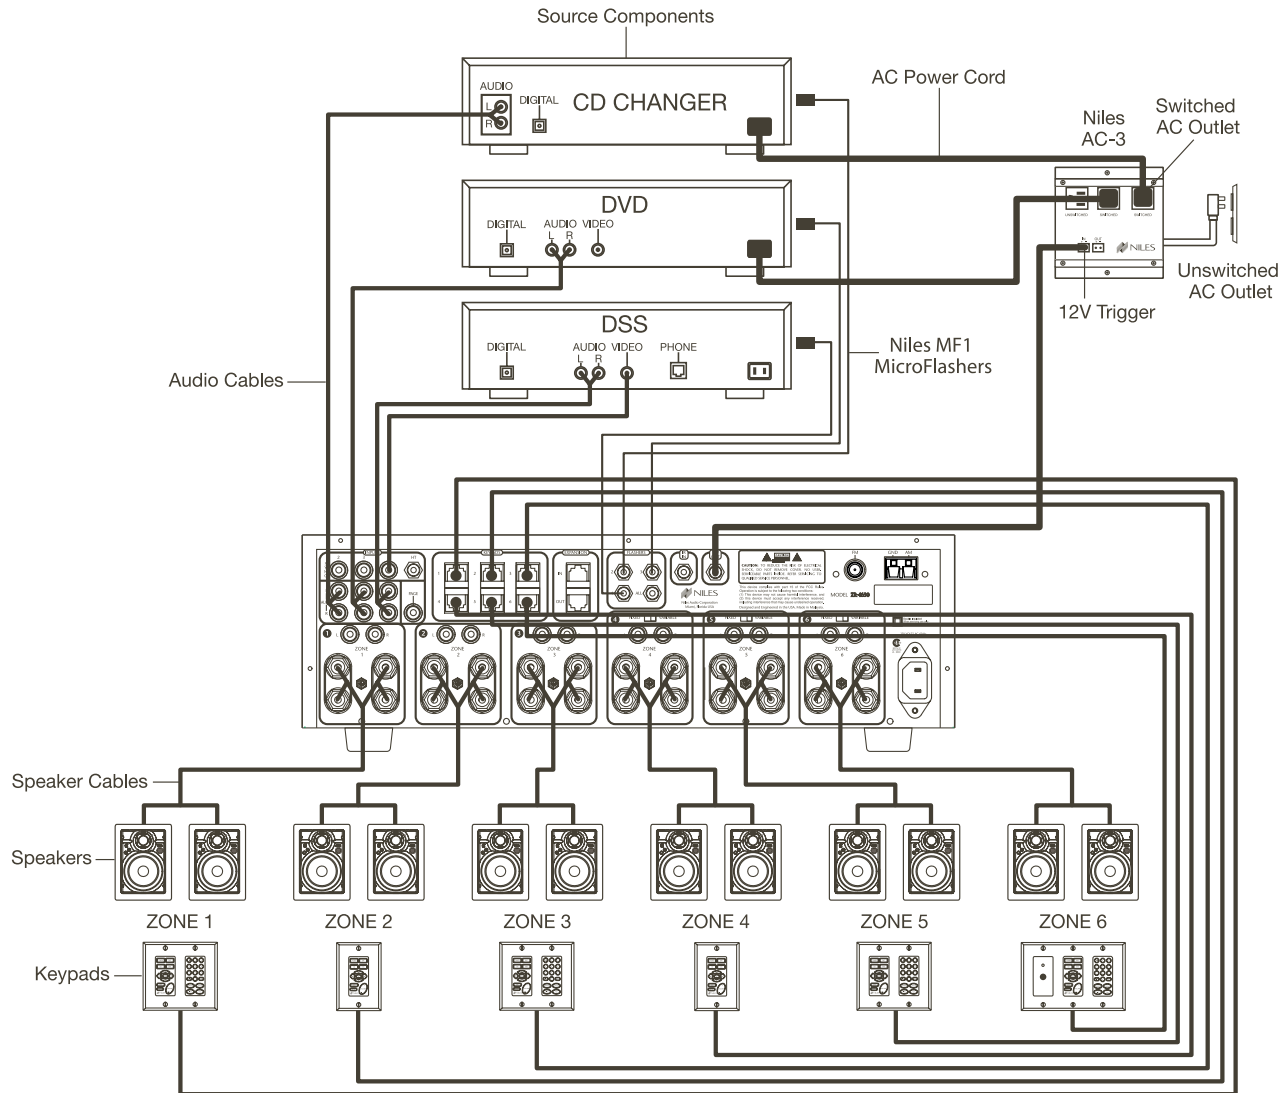

Figure 4
This is the simplest of the ZR-4630 configurations (see Figure 4). It depicts one Niles ZR-4630 MultiZone Receiver installed to provide sound to six listening zones.
1. **Synchronized IR** - In Figure 4, the DSS receiver’s power ON/OFF is synchronized via a video signal connected to the ZR-4630. When the Master Key/Source Button for the DSS is pressed, the ZR-4630 checks for a video signal at the Sync Input corresponding to the DSS. **The ZR-4630 issues the power command to turn the DSS ON only when there is no video signal present and the DSS is OFF.**
2. **Latching Power** - In Figure 4, AC power to the DVD and CD changer is turned on and off via the switched AC outlets of a Niles AC-3. The AC-3 is activated by the 12V Control Output from the ZR-4630 when any one of the six zones is ON (including the Home Theater Zone sharing sources). The built-in AM/FM tuner is also turned ON when one of the six zones is ON.